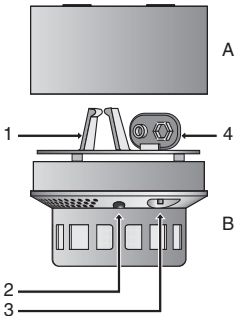

Fig. 1 Installation
- Remove the temperature detector (Fig. 1, B) from its base (A) by turning it anticlockwise.